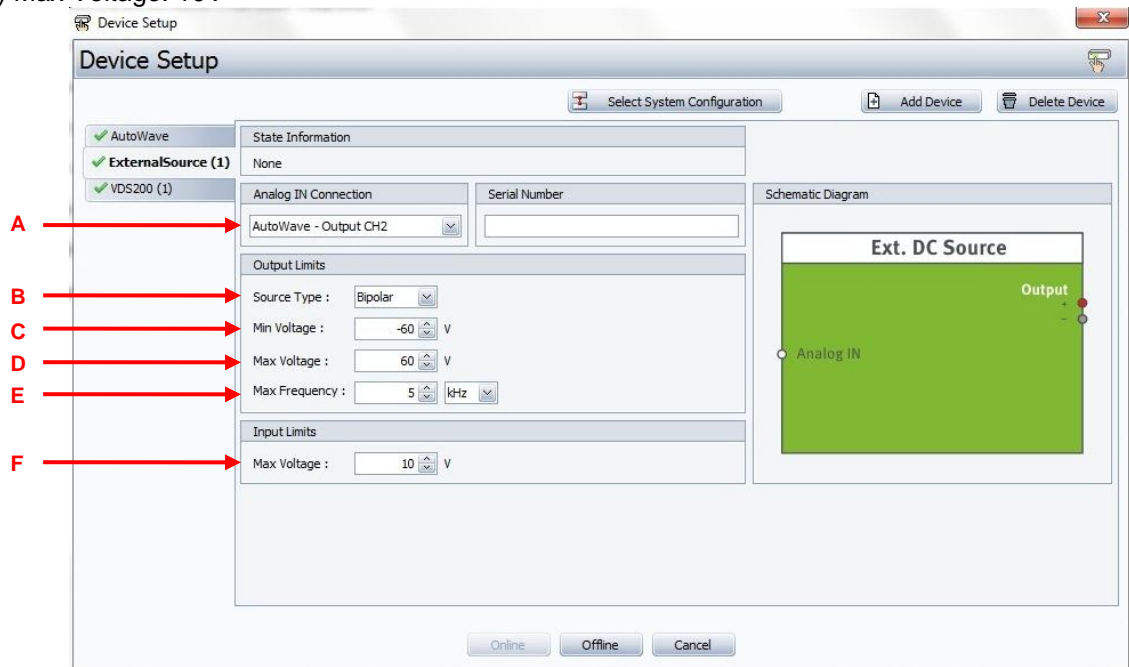

Figure 2.5
Step3: Configuration External Source (see figure 2.5 below)